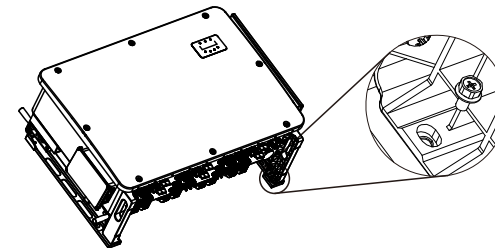

Figure 3.7 Fix the inverter
Refer to figure 3.7 Inverter shall be mounted vertically.
1. Refer to Figure 3.7, drill holes for mounting screws based on the hole diameter of bracket using a precision drill keeping the drill perpendicular to the wall. Max depth is 3.5 in.